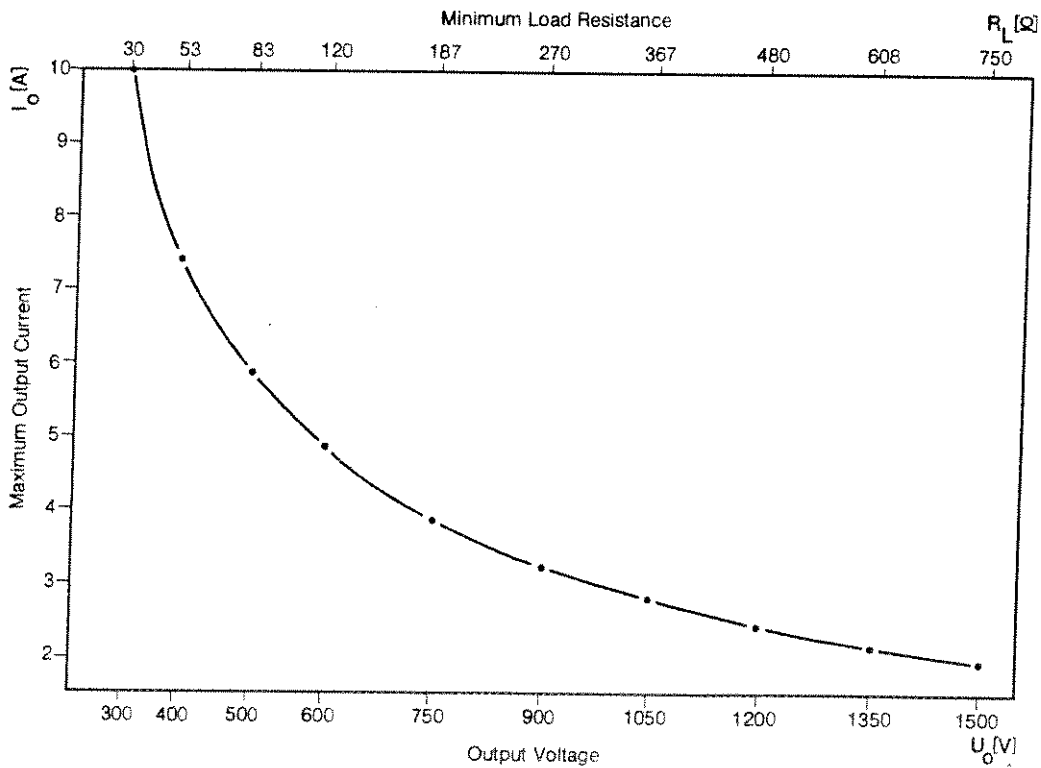

Figure 4
In Table 1 the maximum output current from the transmitter at certain values of load resistance is given for each position of the output voltage selector switch. The maximum load resistance limit occurs because of the built-in underload protection which shuts off the transmitter if the output is less than 85 mA. Figure 4 is a graph of output current vs voltage.
13. Turn the Display Function Switch (6) to the I_{out} position and after a warm up of 2 to 4 minutes re-adjust the Display Zero Adjustment (5) to zero using a screwdriver, if necessary.
14. With the current wires connected as in Item 4 above, turn the Display Function Switch to the k position and measure the value of the current circuit resistance on the Digital Display. Check Table 1 and Figure 4 to determine what voltage level setting is required for the desired current given the measured current circuit resistance. If this resistance is above 20 k ohms then the TSQ-3 will not operate since it will see an underload condition. If the resistance is too high to allow delivery of the desired current, an effort must be made to ground the current electrodes better by sinking them farther into the ground or by pouring water on them. Set the Output Voltage Selector Switch (13) to the required position.